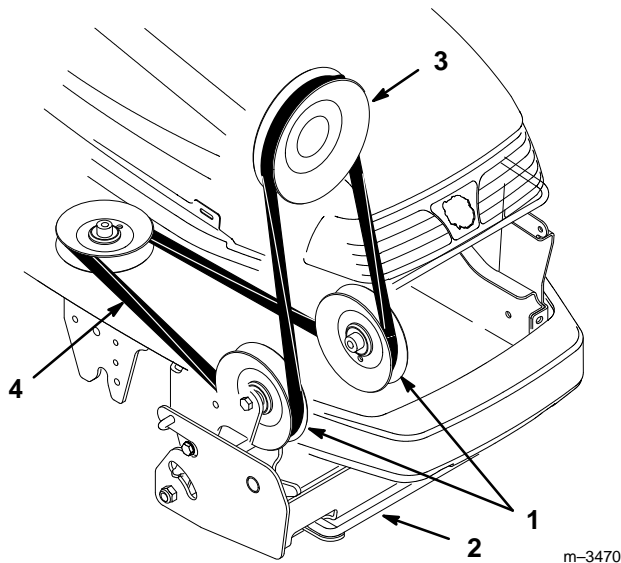

Figure 10
5. Position the end of the belt into the grooves of the PTO pulley (Fig. 10), making sure it is also under the pulleys in the pulley box.